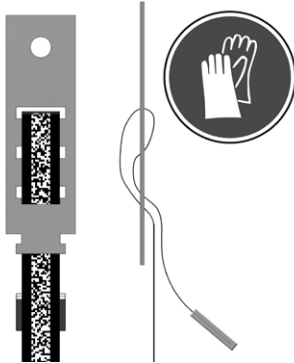

Figure 25: Top tension lock threading
1. Thread the end of the code tape into the top tension lock (Figure 25).